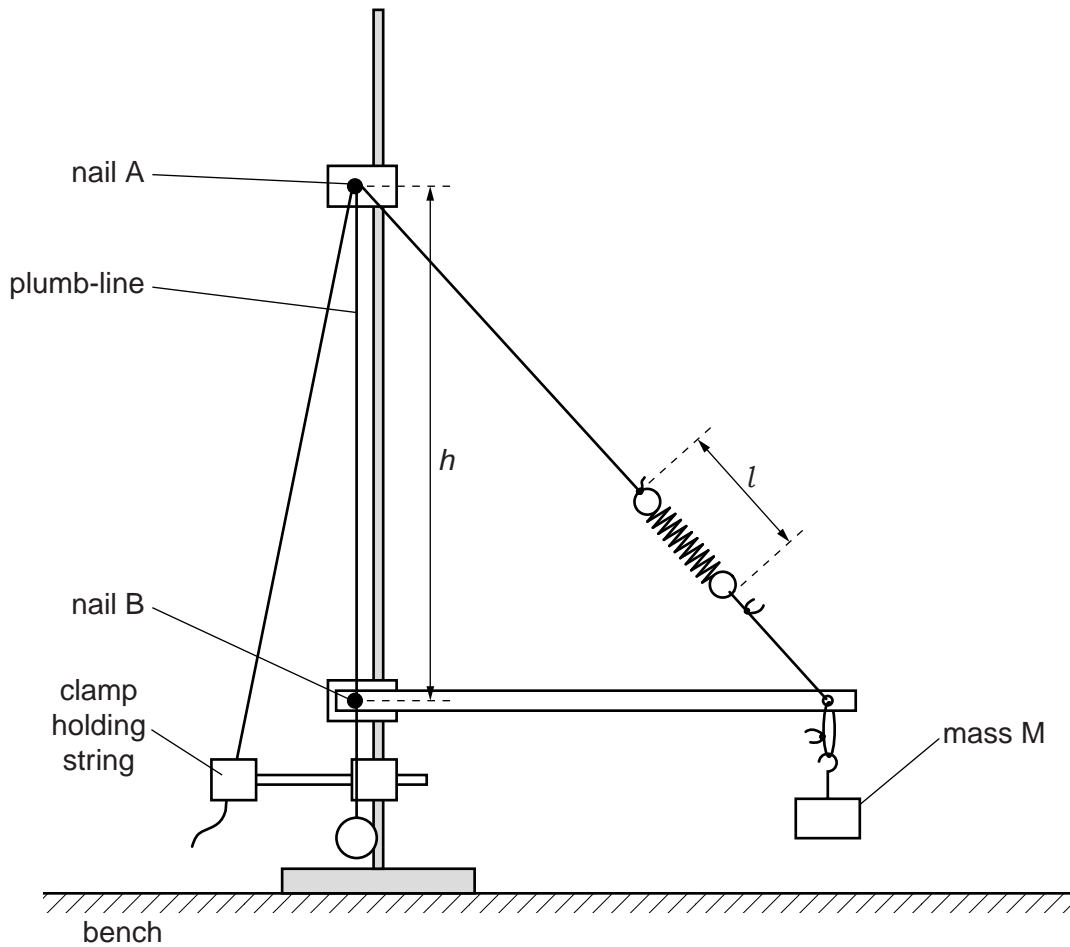

Fig. 1.3
- (ii) Use the plumb-line to ensure that nail B is vertically below nail A, as shown in Fig. 1.3.
- (iii) Measure and record the distance  $h$  between the two nails, and the length  $l$  of the spring, as shown in Fig. 1.3.